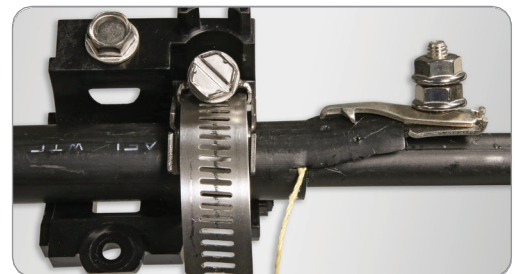

Figure 14
2. Armored WTC outer sheath will end at the CAU sheath end location. (Figure 14)
2. If the cable is armored, a tab should be left for the ground clamp. The tab should be past the hose clamp. (Figure 14)